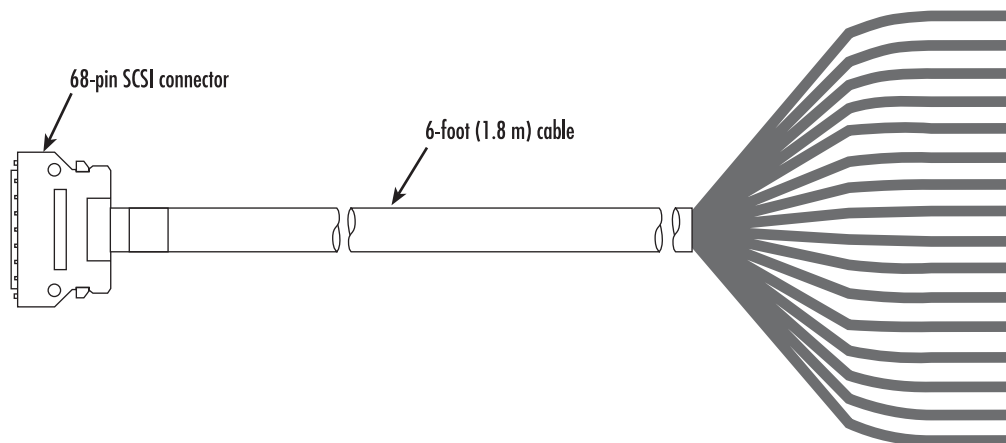

Figure 15. SCSI-to-open-end 6-foot WAN cable (obsolete)
1. This 6-foot WAN cable (see figure 15) connects the 2616RC T1/E1 lines to a punch-down block via 28 gauge wire (0.3mm). Check your punch-down block wire gauge requirements as most punch-down blocks will not hold 28-gauge wire securely in place.